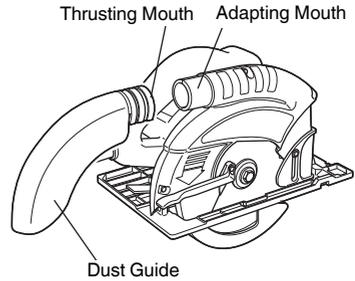

Fig. 11
- (1) Insert the dust guide's thrusting mouth into the adapting mouth of the body. (Fig. 11)